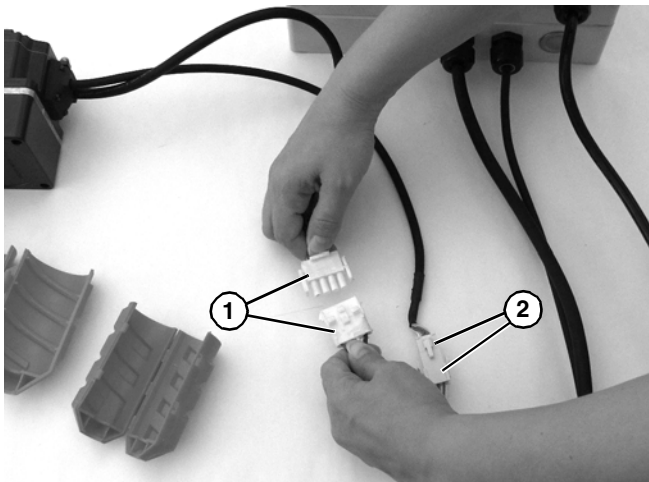

Figure 33
4. Unplug motor cord connectors (Figure 33, item 1) and signal cable connectors (Figure 33, item 2).